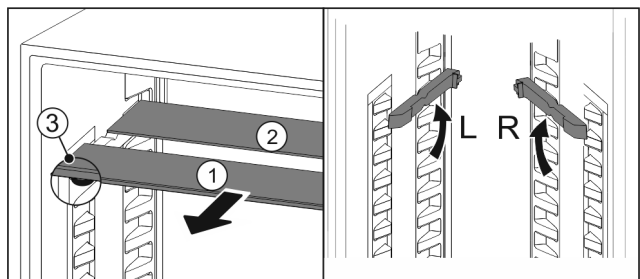

Fig. 127
- ▶ Pull the glass panels out Fig. 127 (1) from the front, one at a time.
- ▶ The glass panel Fig. 127 (1) and trim strip are at the front.
- ▶ The stops Fig. 127 (3) point down.